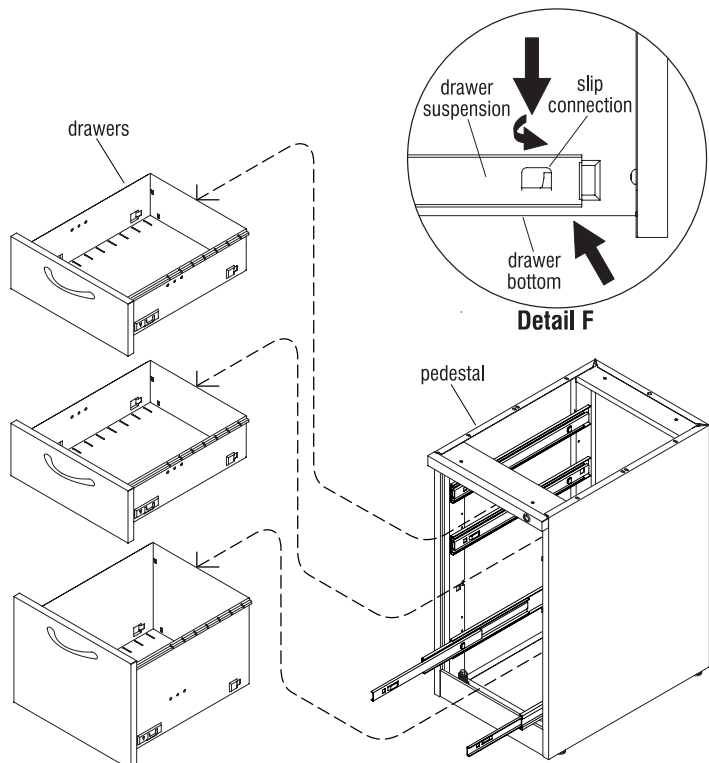

Figure 22
- Empty the contents of file drawers and open drawer until suspension is fully extended (Figure 22).
- The drawer will now slip free from the rear connections by pulling the drawer evenly at a slight angle upwards (Figure 22).